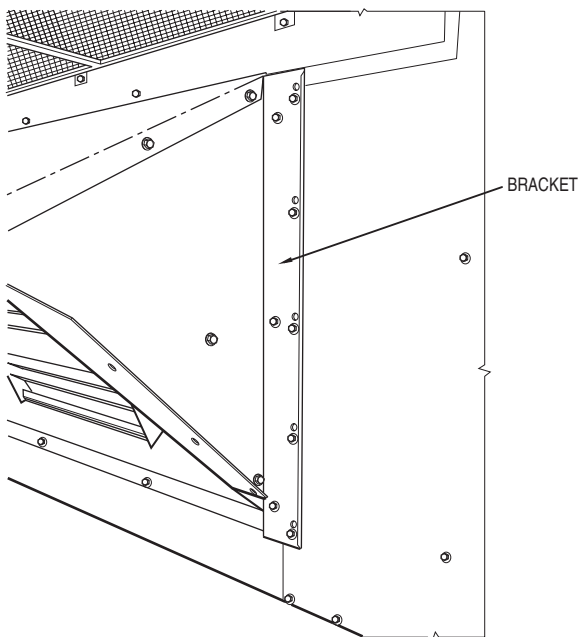

Fig. 7 — Bracket and Hood Positioning
8. Install the side brackets using the screws included ($\frac{1}{4}$ x $\frac{3}{4}$ -in.). Be sure to properly position the hood. See Fig. 7.
5. Install the side brackets using the $\frac{1}{4} \times \frac{3}{4}$ -in. screws. Be sure to properly position the hood. See Fig. 7.